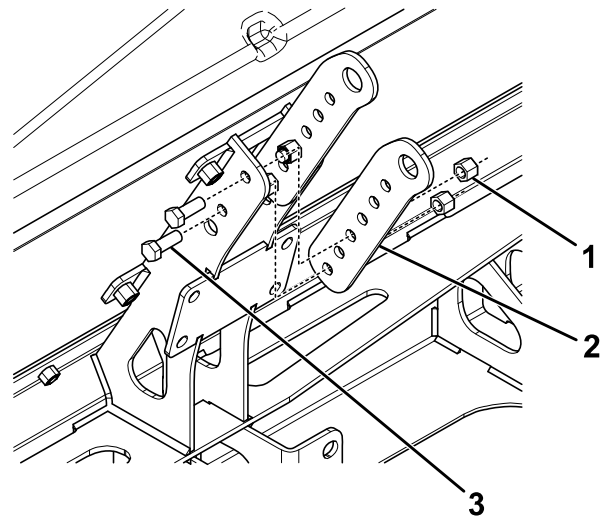

Figure 13
3. Secure the mast brackets to the spreader using 4 bolts (3/8 inch) and locknuts (Figure 13).